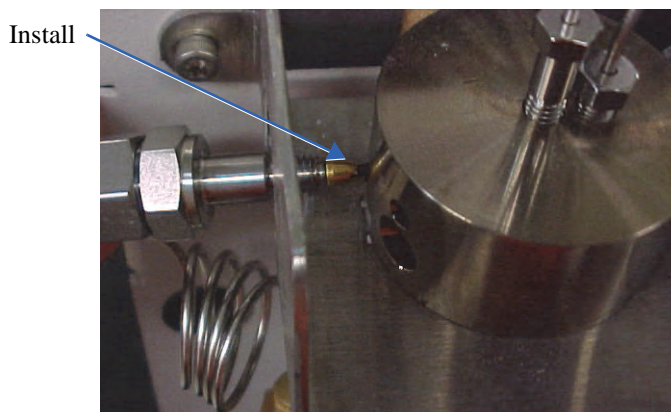

Figure 11.2. Installing the injector assembly
3. Install the injector fitting assembly with the liner into the sparge manifold as shown in Figure 11.2.